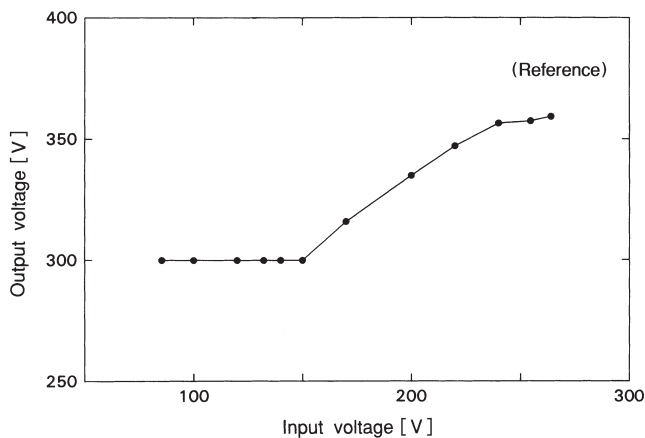

Fig.16.1 Output voltage (Actually measured data)
- Vo : Output voltage (Refer to Fig.16.1) [V]